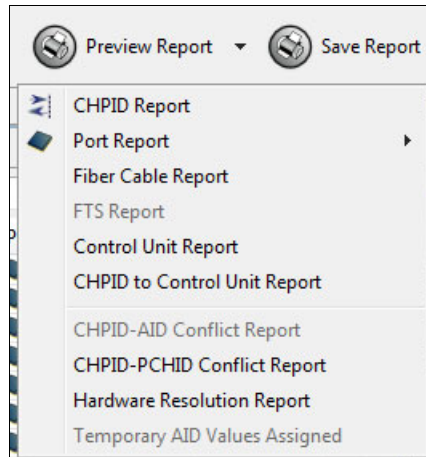

Figure 6-99 CMT - Preview report - CHPID Report
1. Click **Preview Report** → **CHPID Report** (Figure 6-99).